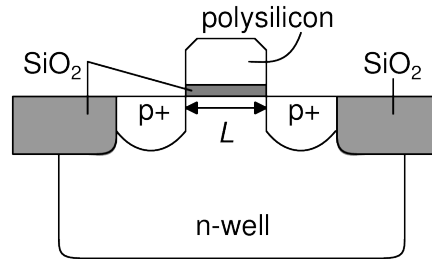

Fig. 1
- 1 The cross-section of a fabricated PMOS transistor is shown in Fig. 1.
- (b) The gate-to-channel capacitance C_{GC} is affected by the mode of operations of the transistor. Based on the structure shown in Fig. 1, explain briefly the sources of C_{GC} when the transistor is cut-off and in saturation. [15%]